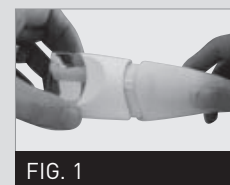

FIG. 1
1. Disconnect the Ergolift head care chamber. (fig. 1)